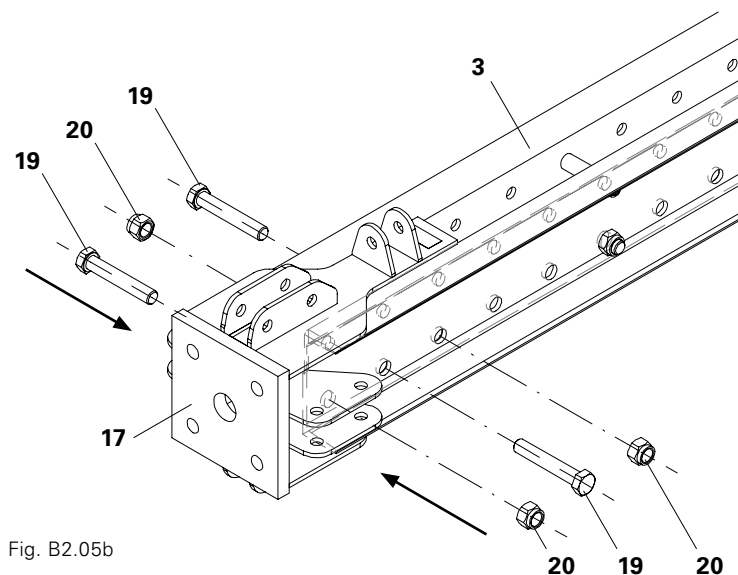
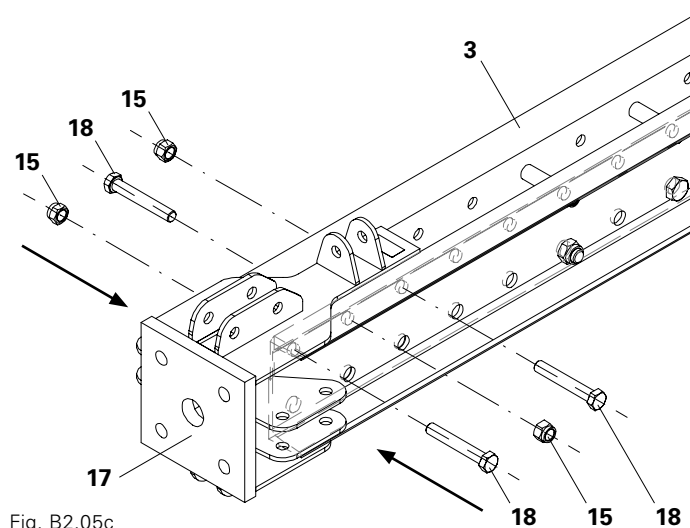

Fig. B2.05b
Fig. B2.05c
1. Insert Prop Base VST 48 (17) into the Climbing Rail RCS 248 (3)* on the side with the five free rows of holes.
2. Insert 1 x Bolt ISO 4014 M20 (18) from the left-hand side.
3. Insert 2 x Bolts ISO 4014 M20 (18) from the right-hand side.
4. Attach Nuts ISO 7042 M20 (15) and tighten the connections. (Fig. B2.05b)
5. Insert 1 x Bolt ISO 4014 M24 (19) from the right-hand side.
6. Insert 2 x Bolts ISO 4014 M24 (19) from the left-hand side.
7. Attach Nuts ISO 7042 M24 (20) and tighten the connections. (Fig. B2.05c)